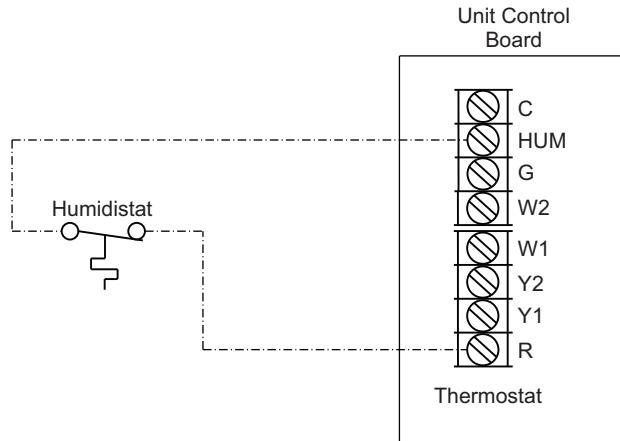

Fig. 39 – Humidistat Connections to UCB
3. Connect one of the leads from the 2-conductor cable to the HUM terminal on the UCB (Unit Control Board). Connect the other lead to the R terminal on the UCB. See Fig. 39.